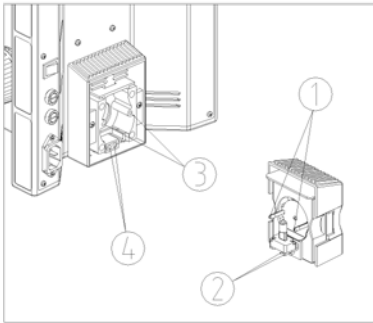

Fig. 4
Align the guide pins ① and power pin ② on the lamp house to the corresponding holes on the back of the microscope ③ and ④, then insert the lamp house. (See Fig. 4)